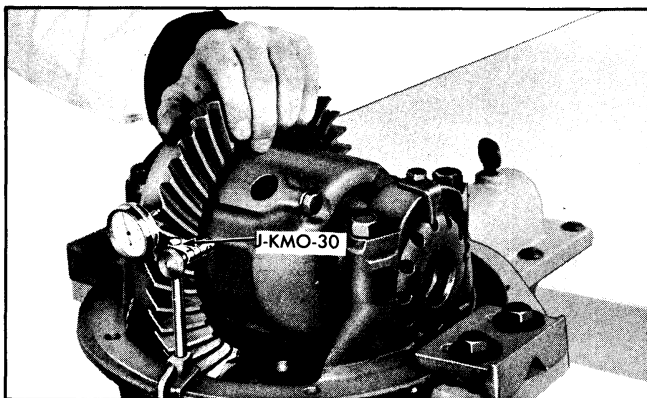

Fig. 4-21 Checking Backlash with KMO-30 Set
8. Check backlash between ring gear and pinion, using indicator set KMO-30 (Fig. 4-21).